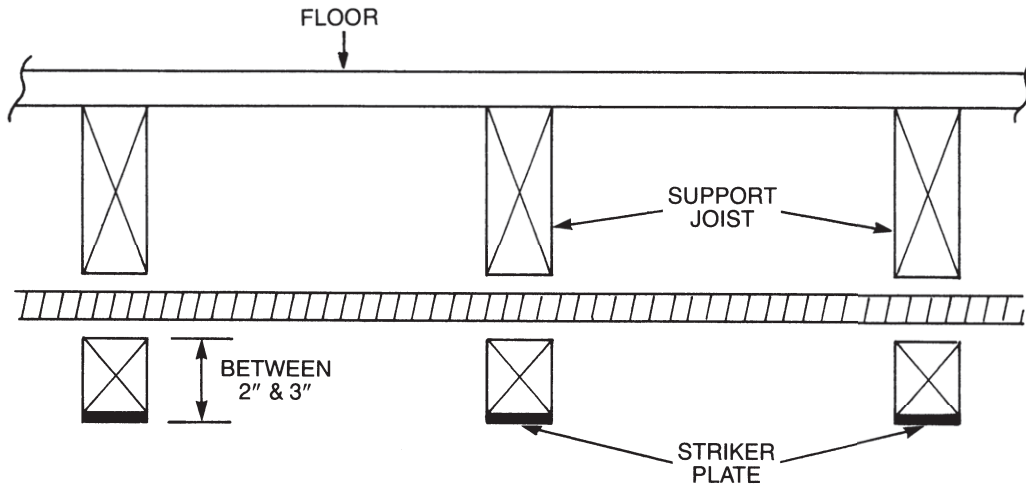

Figure: 4-8
- b. At support points and points of penetration 2 to 3 inches from any edge of stud, joist plate, etc. shielding is required throughout area of support. Use a quarter striker plate in these locations. Figure: 4-8.